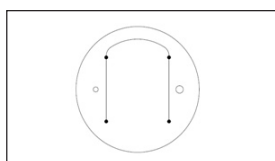

Figure 2a. Schematic of 4 port splitter channel design.
2. Locate the SilFlow™ MCD (3) and identify the appropriate port location suitable for the GC capillary column connection (see Figure 2a and b – the port dimensions are located on the back of the MCD).